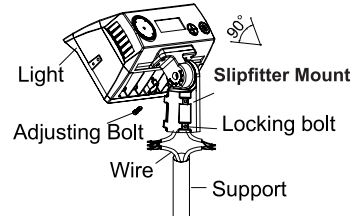

FIGURE 5
1. Connect the wires correctly and put the wires into pole. Then fasten the locking bolts between slip fitter and the pole (FIG 5)